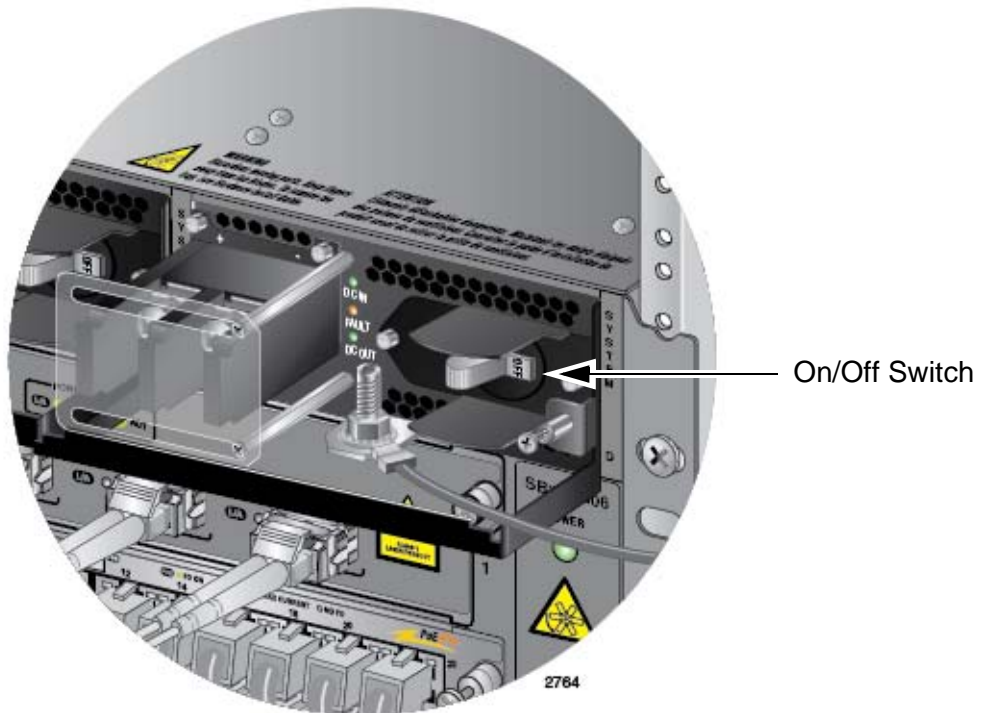

Figure 137. On/Off Switch On the AT-SBxPWRSYS1 DC Power Supply
3. Verify that the On/Off switch on the AT-SBxPWRSYS1 DC Power Supply is in the Off position. Refer to Figure 137.
13. Turn the On/Off switch on the power supply in the chassis to the On position. See Figure 137 on page 197.
3. Verify that the On/Off switch on the AT-SBxPWRSYS1 DC Power Supply is in the Off position. Refer to Figure 137 on page 197.
12. Turn the On/Off switch on the power supply to the On position. See Figure 137 on page 197.
2. Verify that the On/Off switch on the AT-SBxPWRSYS1 DC Power Supply is in the Off position. Refer to Figure 137 on page 197.